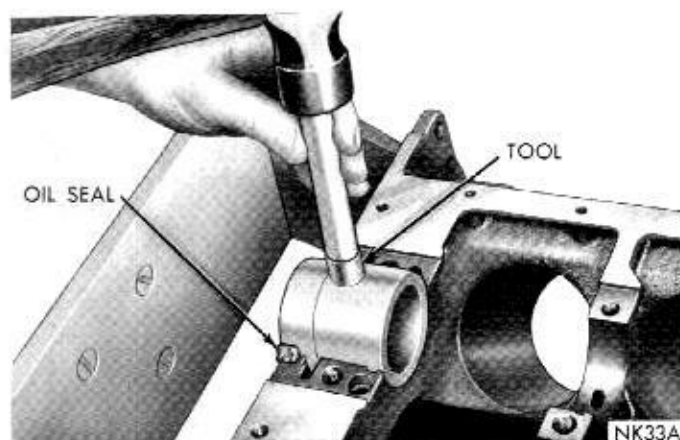

Fig. 42—Installing Rear Main Upper Oil Seal
- (1) Install a new rear bearing oil seal in the cylinder block so that both ends protrude.
- (2) Using Tool C-3511 tap seal down into position until tool is seated in bearing bore, (Fig. 42).